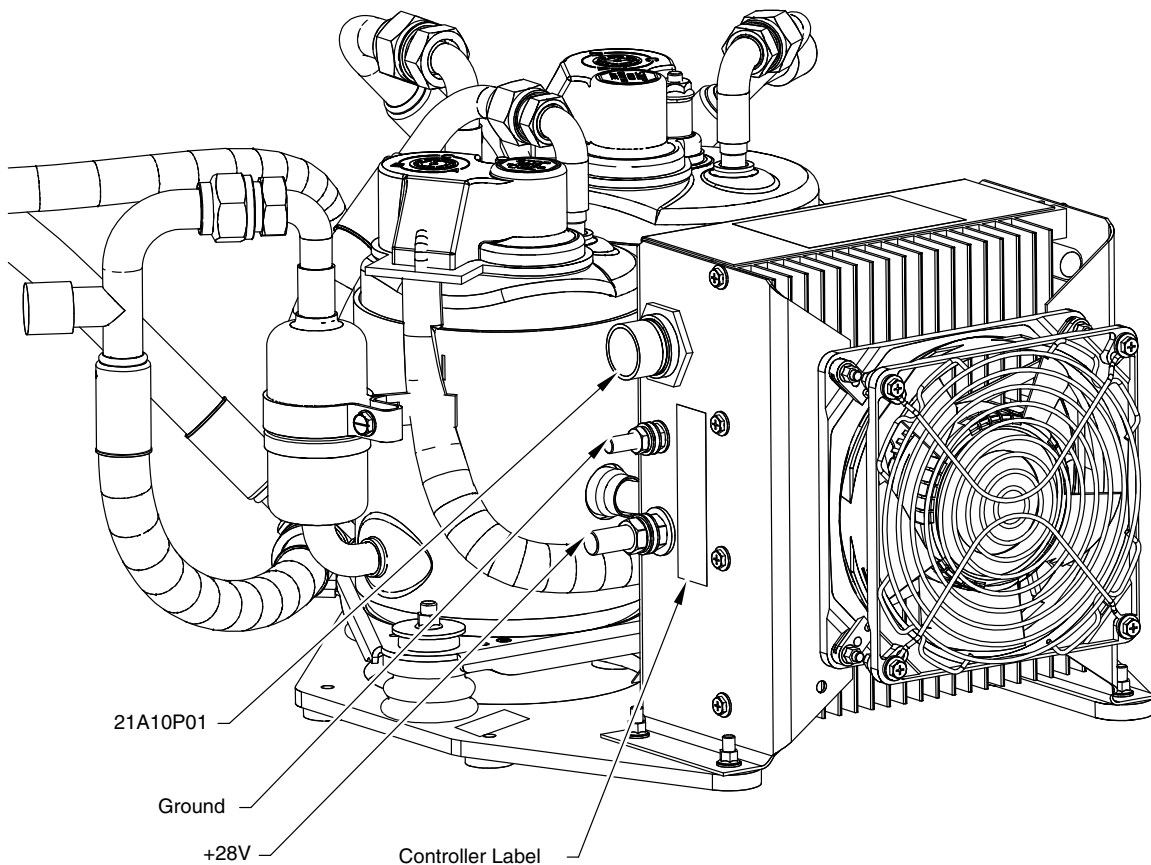

Figure 1
- (1) Make the aircraft safe for maintenance. Refer to AMM 20-00-01 MAKE SAFE FOR MAINTENANCE. _____
- (2) Remove Nose Access Panel - 211 CT. Refer to AMM - 53-10-11 - NOSE ACCESS PANEL - REMOVAL. _____
- (3) Ensure the VCS system is turned off and secured from operation during the implementation of this service bulletin. _____
- (4) Disconnect the 21A10P01 Connector at the ITPCA controller. Refer to Figure 1. _____
- (5) Remove Mox Tape, lock nut and washers from the +28V stud on the ITPCA controller. Remove and secure cable CCS-1006-6 as required. Use a backup wrench as needed to ensure the power stud does not turn when removing the ring terminal hold down nut. Retain hardware for reinstallation. Refer to Figure 1. _____
- (6) Remove Mox Tape, lock nut and washers from the Ground stud on the ITPCA controller. Remove and secure cable CCS1010-6N as required. Use a backup wrench as needed to ensure the ground stud does not turn when removing the ring terminal hold down nut. Retain hardware for reinstallation. Refer to Figure 1. _____
- (20) Reconnect 21A10P01 Connector at the ITPCA Controller. Refer to Figure 1.
- (21) Reconnect the Ground cable, wire number CCS1010-6N to the Ground stud on the side of the ITPCA Controller. Torque nut to 58 - 63 in-lbs. Use a backup wrench as needed to ensure the ground stud does not turn when torquing the ring terminal hold down nut. Apply Mox tape to terminal and stud.